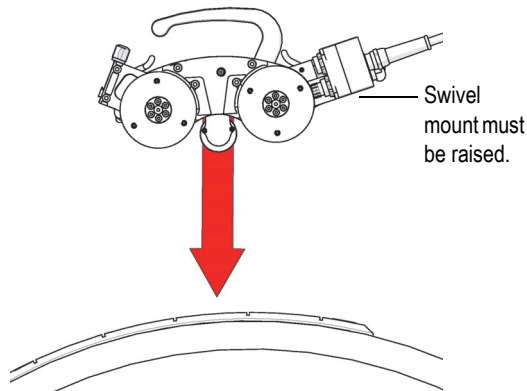

Figure 4-7 Proper swivel mount position
3. Raise the umbilical mount (see “Umbilical” on page 56) to ensure that they will not hinder the wheels from contacting the inspection surface. See Figure 4-7 on page 173 for the correct position.